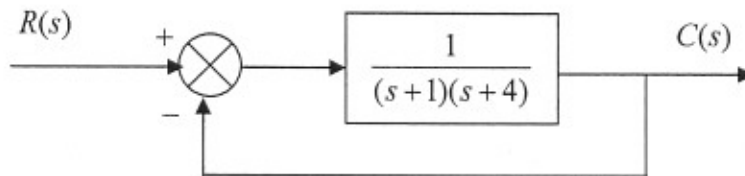

Figure 3
5. [Marks: 18] You are required to design a controller for the system of Figure 3 such that the system has a settling time of 1.0 second and a peak time of $\pi/3$ seconds, with the zero steady-state error for a step input. Specify what controller that you need to use and then design the controller.